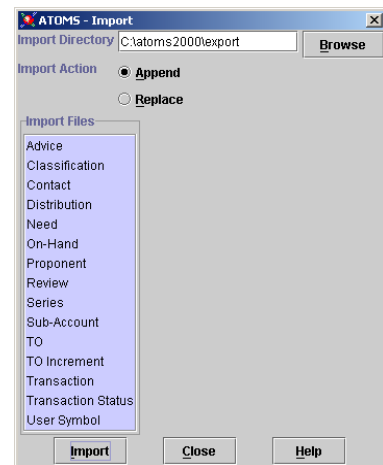

Figure 4-21. Import Window
- 5) After the Back-Up decision is made, the Import window appears (Figure 4-21).